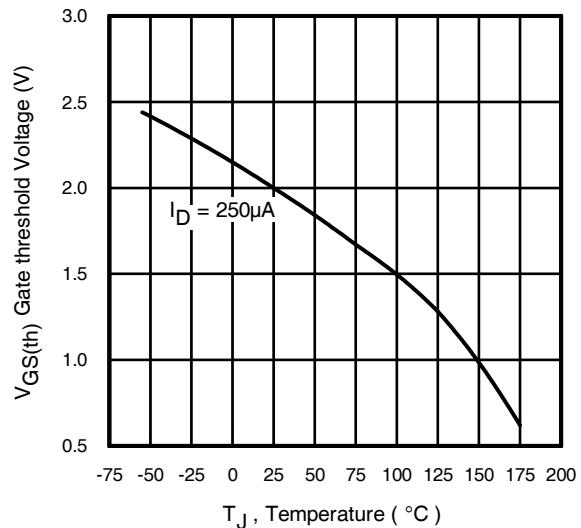

Fig 14. Threshold Voltage vs. Temperature
7. ΔT = Allowable rise in junction temperature, not to exceed $T_{j\max}$ (assumed as 25°C in Figure 14, 15).